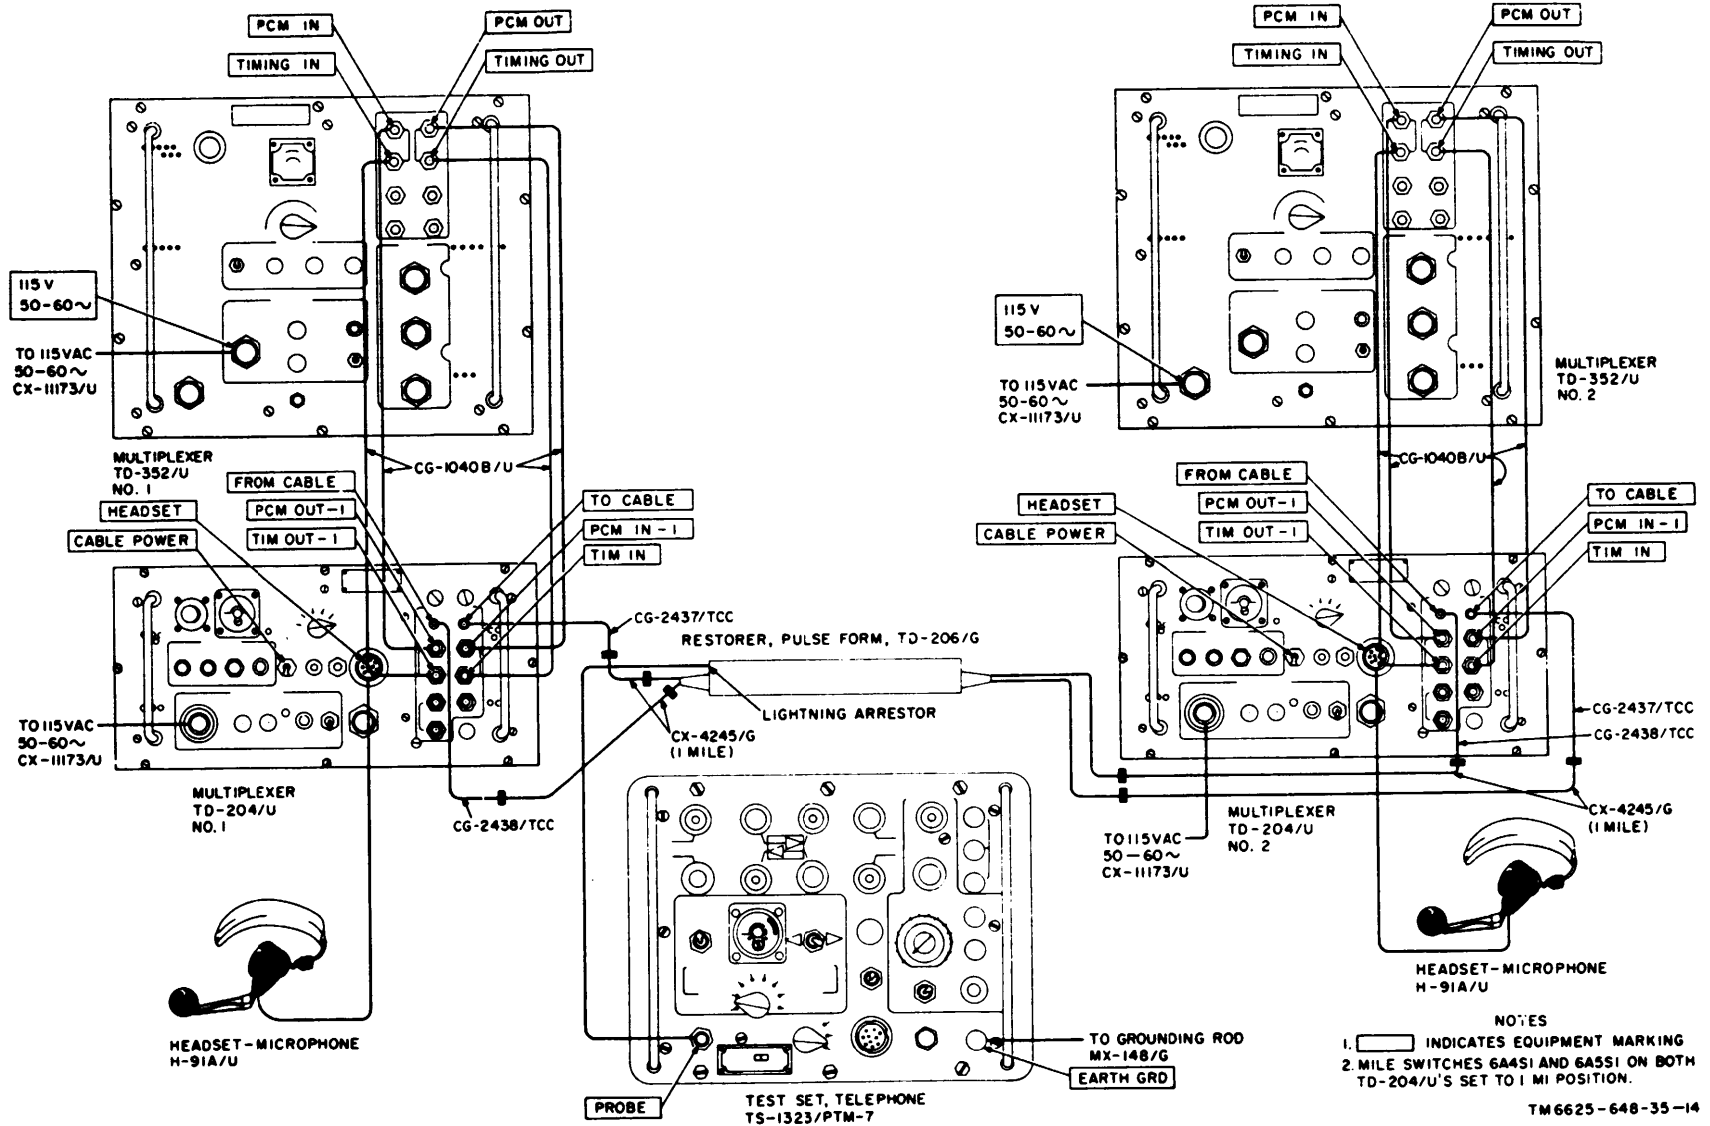

Figure 4-2. Test Set, Telephone AN/PTM-7, performance test setup, pcm probe test.
(fig. 4-2)
- (1) Multiplexer TD-352/U (2 ea).
- (2) Multiplexer TD-204/U (2 ea).
- (3) Headset-Microphone H-91A/U (2 ea).
- (4) Cable Assembly, Special Purpose Electrical CX-4245/G or equivalent (1/4-mile reel (8 ea).
- (5) Cable Assembly, Radio Frequency CG-1040B/U (5 ft) (8 ea).
- (6) Cable Assembly, Radio Frequency CG-2437/TCC (10 ft) (2 ea).
- (7) Cable Assembly, Radio Frequency CG-2438/TCC (10 ft) (2 ea).
- (8) Restorer, Pulse Form, TD-206/G (1 ea).
**b. Test Connections and Conditions.** Connect the equipment as shown in figure 4-2.